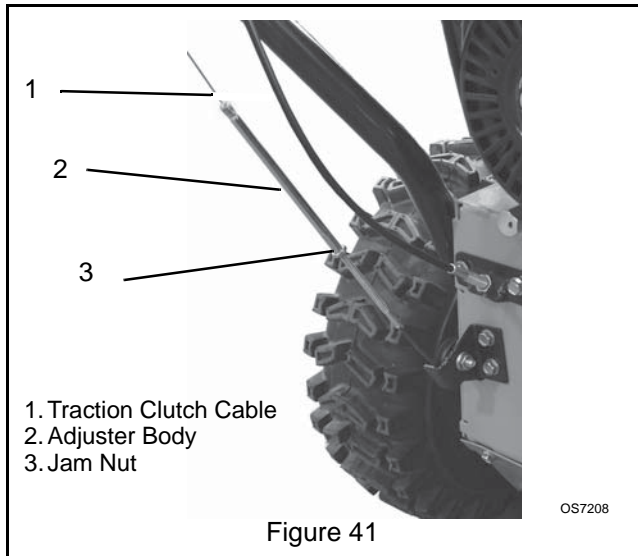

Figure 41
4. To adjust traction clutch (Figure 41):